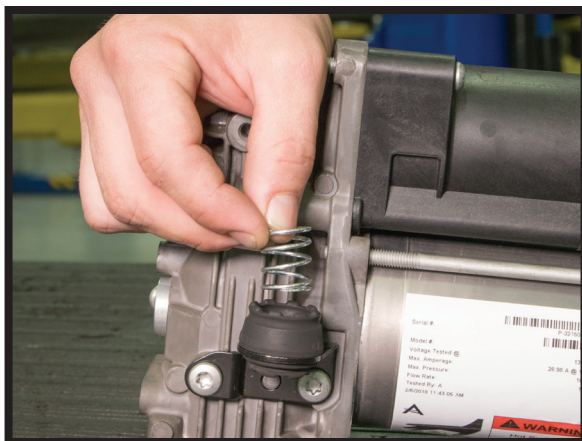

FIGURE 8
3. INSTALL THE SAVED FACTORY MOUNTS ONTO THE COMPRESSOR. (FIGURE 8)